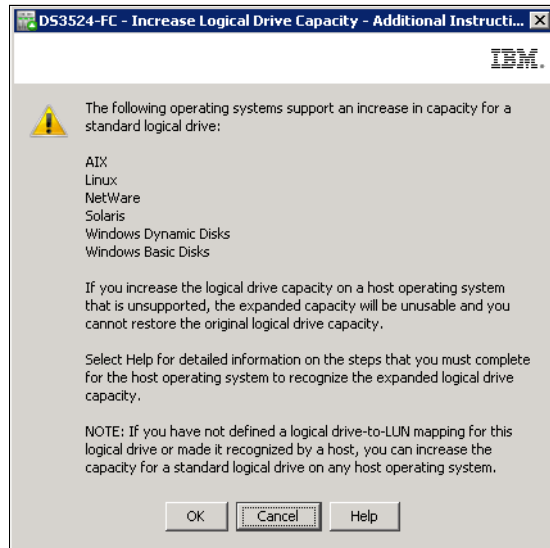

Figure 9-34 Dynamic logical drive expansion
1. Highlight the logical drive to be expanded, right-click it, and select **Increase Capacity**. A window with instructions (Figure 9-34) opens.